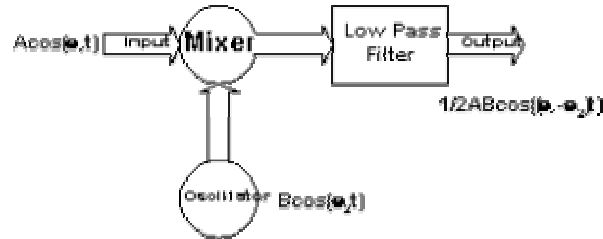

Figure 1.
The inner-workings of heterodyning consist of three elements. These are the mixer (X), the local oscillator (LO), and the low-pass filter (LP). Figure 1 shows the block diagram of the heterodyne translator.